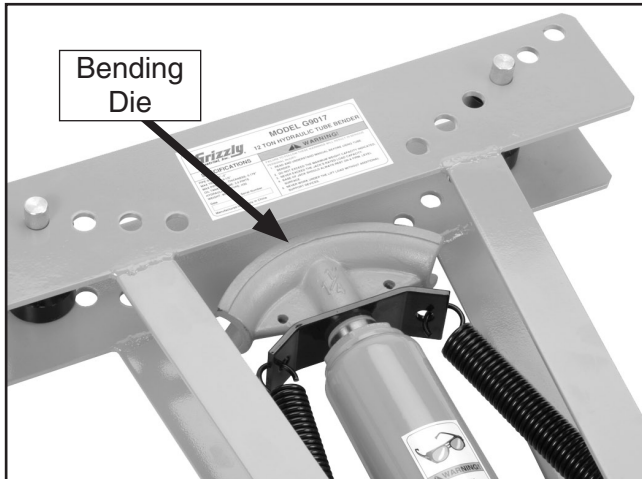

Figure 3. Die installed on bottle jack ram.
2. Choose the proper size bending die and slip it on the end of the ram as shown in **Figure 3**.